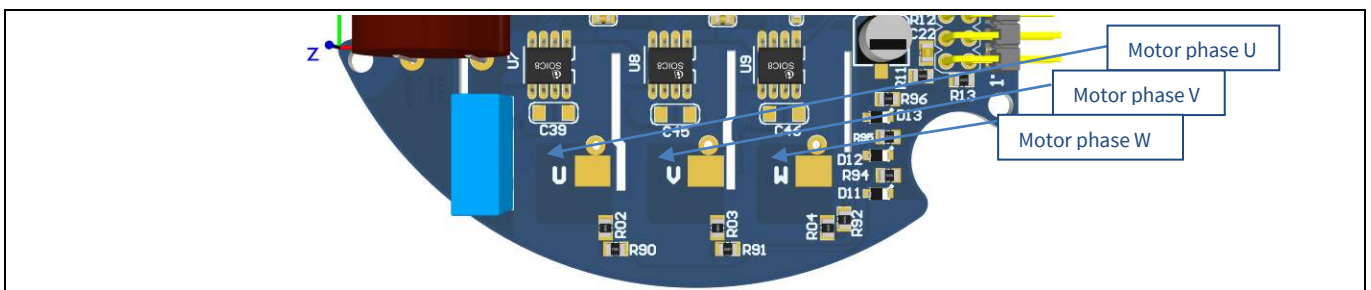

Figure 7 Motor side connector
**Figure 7** shows details of the three-phase motor side connection.